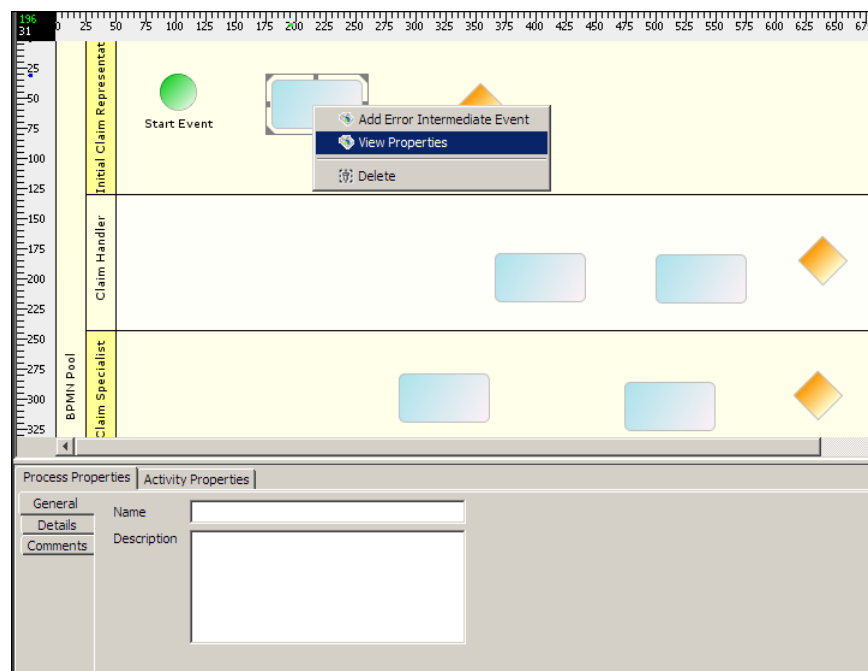

Figure 10: Viewing Properties of an Activity Element
- Double-click the activity element (for example, the first activity element in the *Initial Claim Representative* swim lane). This displays the properties associated with the activity element in the *Activity Properties Panel* in the Bottom Pane. Alternately, you can right-click the activity element and select **View Properties** option (see Figure 10).